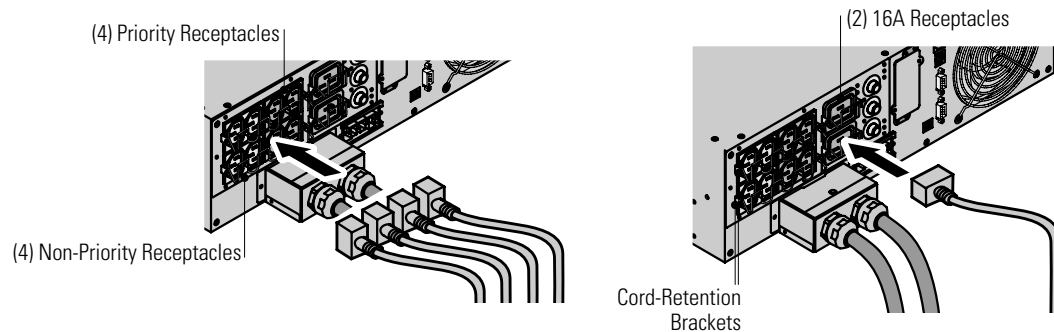

Figure 23. Connecting the Power Cords (EU Models)
8. Plug the equipment to be protected into the appropriate UPS output receptacles using the supplied cables (see page 61 for more information on load segments). See Figure 23.